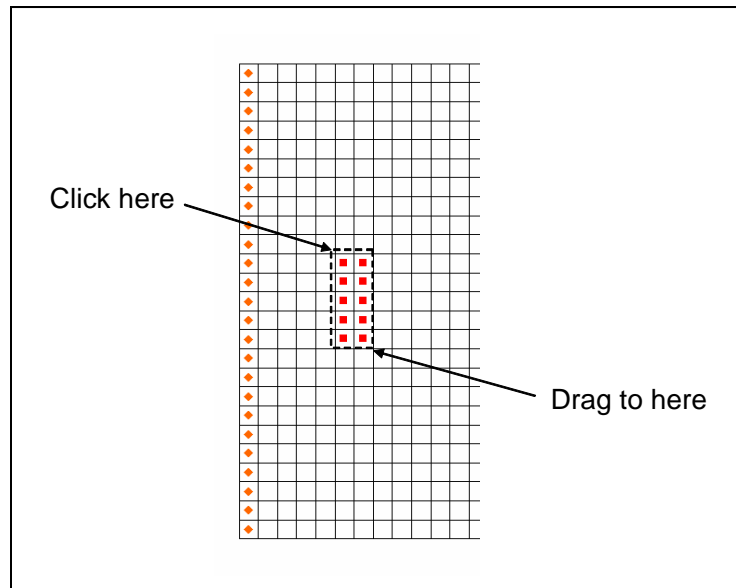

Figure 3 Selecting the cells defining the plume
5. Drag a rectangle to select a 5x2 rectangular region of cells as shown in Figure 3. The currently selected cell represents the cell in the upper left corner of the grid of cells.